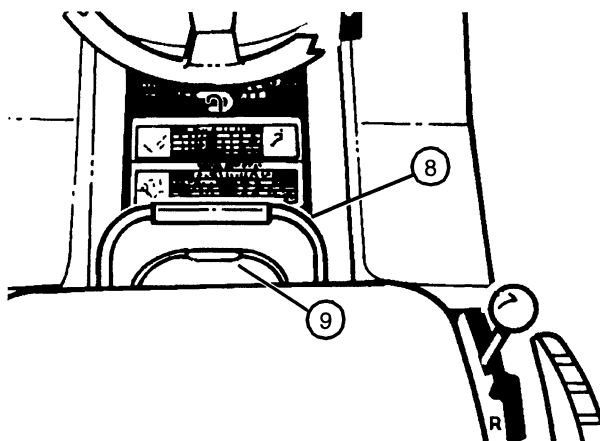

FIG. 19
- Push down deck lift lever (8) slightly and hold locking lever (9) down with thumb. (See Fig. 19)